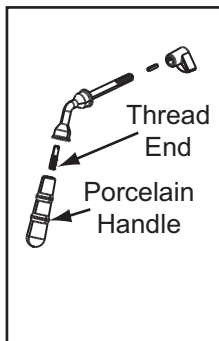

Figure 20.2
1. Insert handle adapter with threads going into the porcelain handle. **Figure 20.2**.